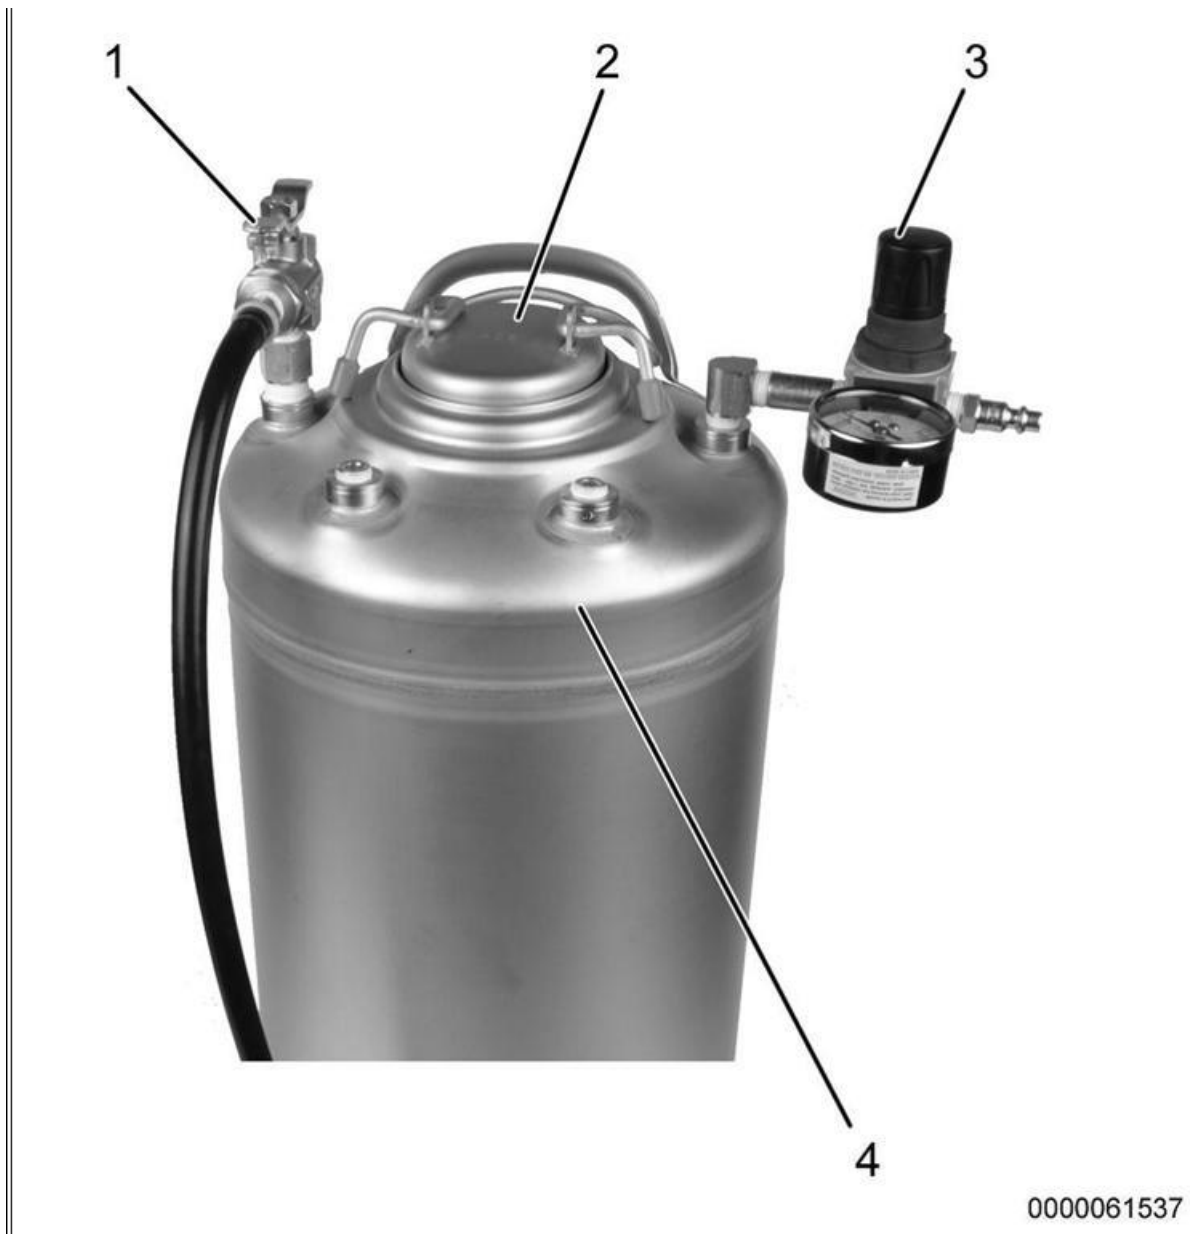

Figure 14: Induction Cleaning System Tank
31. Open lid on induction cleaning system tank assembly (Figure 14, Item 2). Use a strainer, add 2.5 gal (9.5 L) of EGR cooler cleaner and 2.5 gal (9.5 L) of clean water. Discard the strainer.
32. Verify shutoff valve (Figure 14, Item 1) is closed and pressure regulator is set to 0 psi. Supply air pressure to induction cleaning system tank assembly (Figure 14, Item 4), and set pressure regulator (Figure 14, Item 3) to 75 psi (517 kPa).
37. When engine coolant temperature reaches 170°F (76.7°C), open induction cleaning system tank valve (Figure 14, Item 1).
39. Close induction cleaning system tank shutoff valve (Figure 14, Item 1).